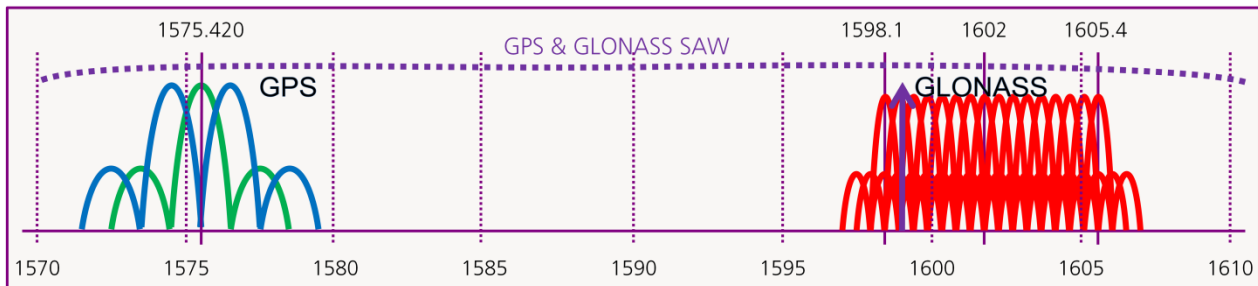

Figure 16: GPS & GLONASS SAW filter
- **Wide RF path** (antenna, external SAW) to allow GLONASS & GPS signals to pass (see Figure 16)
As seen in Figure 16, the GLONASS / GPS satellite signals are not at the same frequency. For this reason the RF path, LNA, filter, and antenna must be modified accordingly to let both signals pass.
- Use a GPS & GLONASS SAW filter (see Figure 16) that lets both GPS and GLONASS signals pass (see the recommended parts list in section 3.3.9)
Usually an active GPS antenna includes a GPS band pass filter that filters out the GLONASS signal (see Figure 16). For this reason make sure that the filter in the active antenna is wide enough.
In combined GPS & GLONASS antennas, the antenna is tuned for receiving both signals and the filter has a larger bandwidth to provide optimal GPS & GLONASS signal reception (see Figure 16).